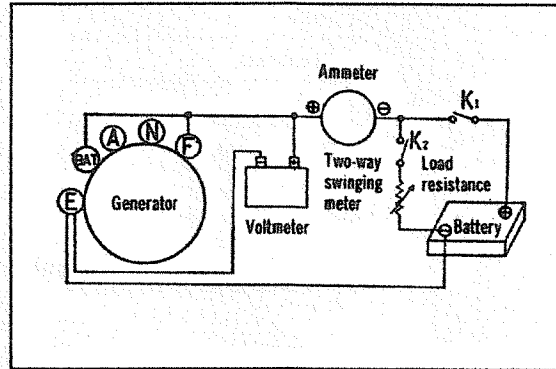

Fig. 11 Generator Inspection (2)
- a. Make connections as shown in Fig. 11 and turn on the switch K1 to supply exciting current from the battery to the field coil of the generator. In this condition, increase the rotating speed of the generator little by little until reverse current (approx. 2A) ceases to flow through the field coil. At that point, turn off the K1 and increase the generator speed further. Read the generator speed at a point where the pointer of the voltmeter indicates 14V. That is a non-loaded value.